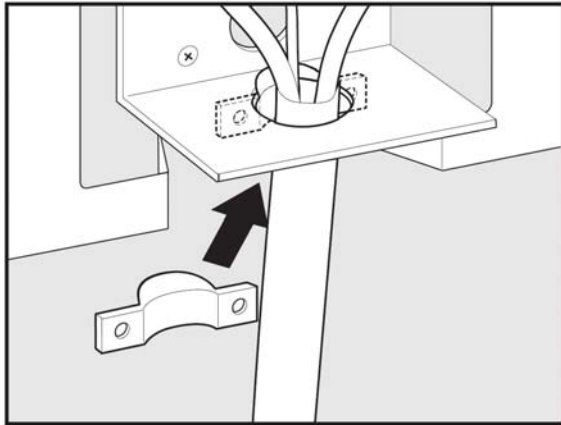
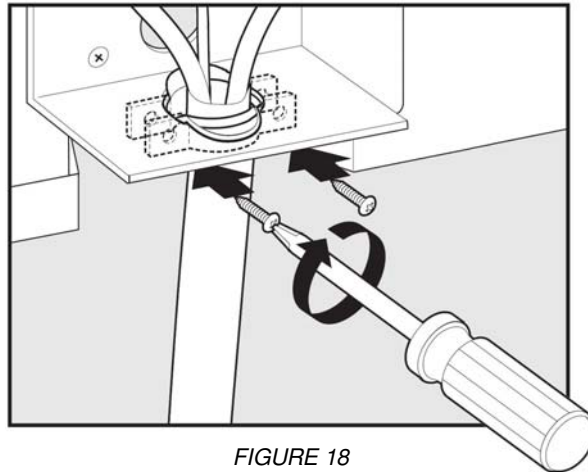
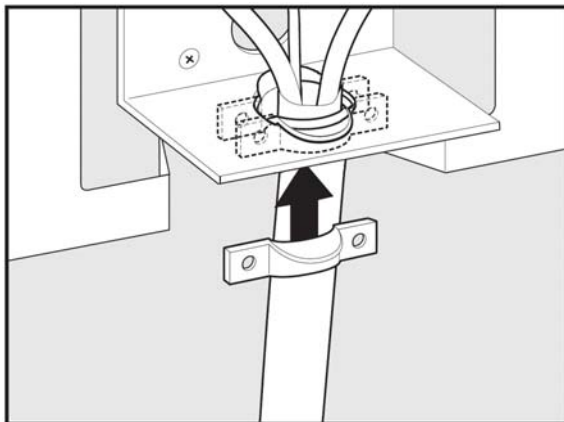

FIGURE 16
FIGURE 18
FIGURE 17
**STRAIN RELIEF INSTALLATION:** Position the rear strain relief (See figure 16). Position the front strain relief (See figure 17). Insert and tighten the screws (See figure 18).